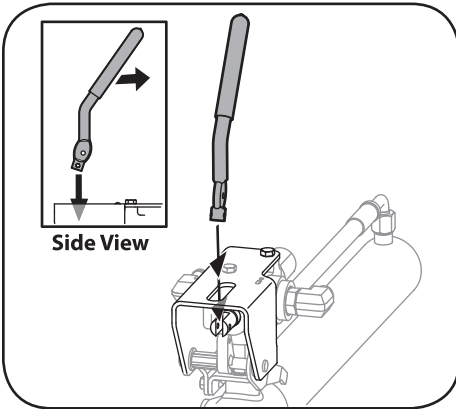

Figure 3-1
2. Insert the handle into the slot on the handle bracket. Make sure the handle is oriented correctly. See Figure 3-1.